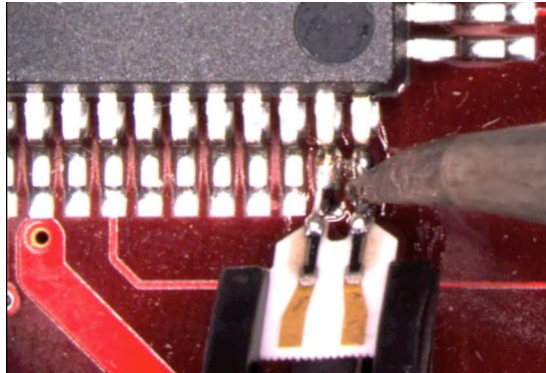

Figure 25 Soldering the ZIF Tip
- 5 Position the ZIF tip with the gold traces facing up as shown in **Figure 25** and carefully re-flow the solder. This orients the tip so that it will properly mate with the probe head.